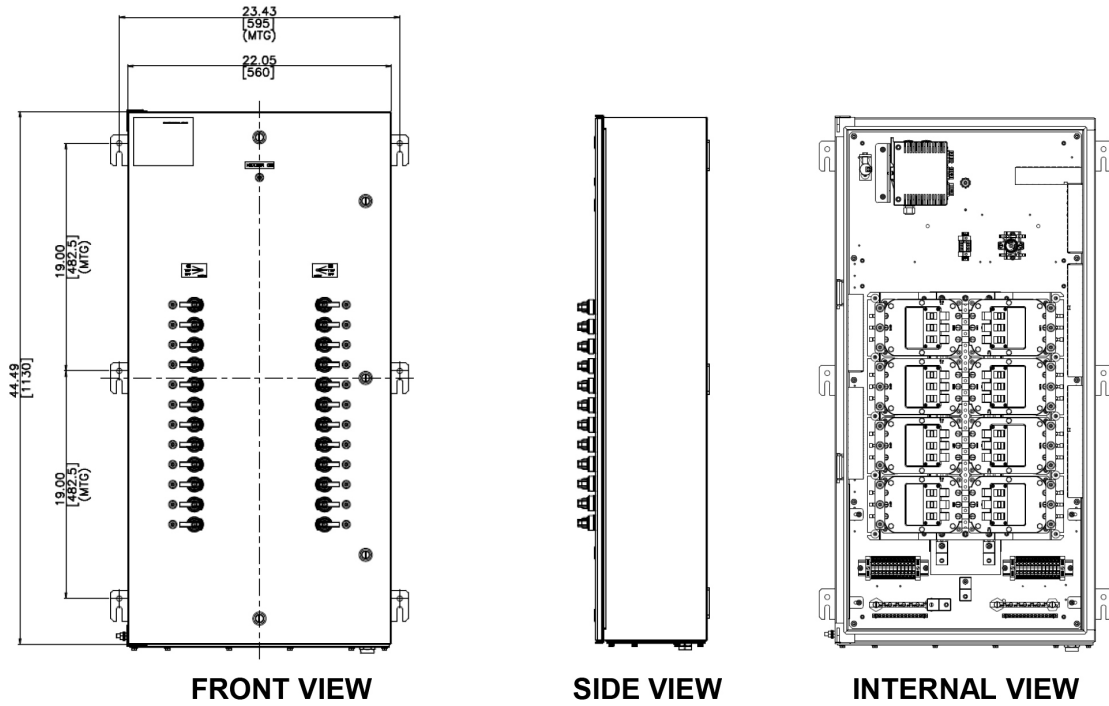

FIGURE 1 - PlexPower Fiber Panel Assembly (QC) External Actuation - Approx. Weight: 90 kg
- Ensure mounting studs/bolts are in place on mounting frame, mounting strut, wall etc. according to dimensions specified on the drawings included in Figures 1 and 2.